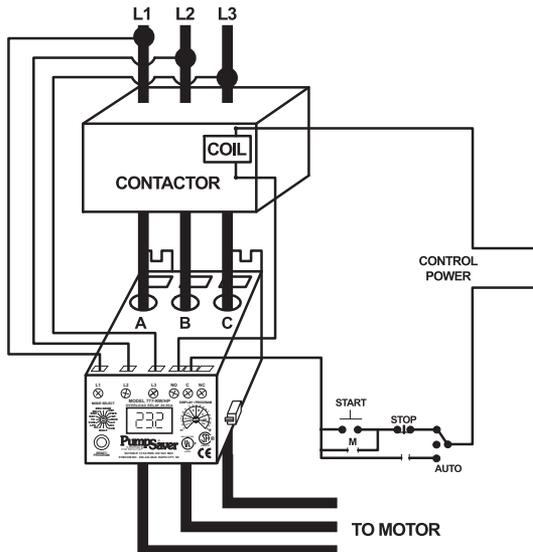

Figure 1: Typical Wiring Diagram for FLA of 26-90 ("ABC" phase sequence*)
3. A) For amperage ranging from 25-90 amps (2-9 Amps -LR types), insert the motor conductors through the holes marked 'A', 'B', and 'C'. Make certain that the conductor through each hole corresponds to the right motor conductor, i.e. the 'A' phase conductor should go through the 'A' round hole. See Figure 1 for a typical wiring diagram.
4. Connect the three phase power from the line side of the contactor to 'L1', 'L2', and 'L3' terminals using 12-18AWG copper wire (See Figure 1). Figure 1 is drawn for a power system wired in "ABC" phase sequence. For power systems with "ACB" phase sequence, switch L1 and L3 connections on 777-KW/HP input.
5. Connect the control circuit wires to the appropriate terminals. The relay is a fail safe design so the 'NO' contact should be in series with the coil on the contactor for motor control (see Figure 1). For alarm circuits, the 'NC' contact is in series with the alarm circuitry.